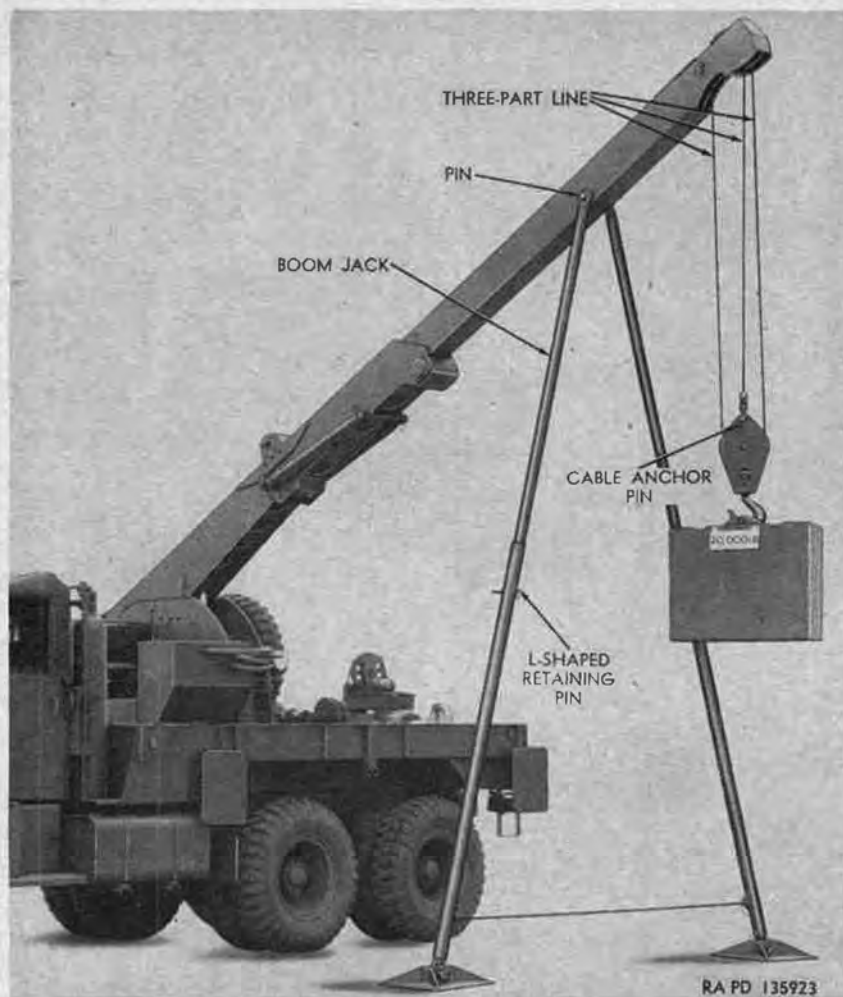

Figure 82. Boom jacks installed (M62).
- (7) *Boom jacks.* Two adjustable boom jacks (fig. 82), one for each side of the boom assembly, are provided for supporting the boom from the ground for heavy (20,000 lb. maximum) side lifts or rear lifts as shown on the safe load instruction plate (fig. 42). When not in use, the boom jacks are stowed in the stowage box mounted on the crane platform to the left of the pivot post and boom assembly.
- (3) *Boom jacks.* To rig the boom jacks (provided in stowage box mounted on the crane platform to the left of the pivot post and boom assembly), lower the boom and extend it (*a*(4)(*d*) above) to expose the holes for the boom jack pin (fig. 82). With boom in the horizontal position, secure the boom jacks to the boom with the pin provided in stowage. Elevate the boom and aline the holes in the boom jack inner and outer members. Insert retaining pins (fig. 82) in boom jacks to maintain extended positions. Lower the boom slightly to remove the load from the boom hydraulic elevating mechanism.
- (2) *Three-part line* (fig. 82). To rig a three-part line, pass the crane hoist cable over one of the boom sheaves, around the crane block sheave, over the second boom sheave, and secure the cable end to the crane block with the cable anchor pin.